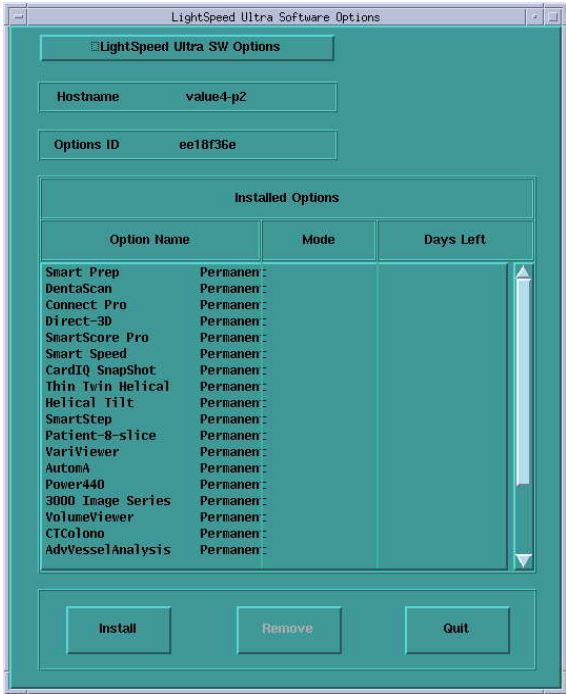

Figure 1-19 Install Options screen
4.) Select INSTALL OPTIONS. A Software Options screen (Figure 1-19) appears.